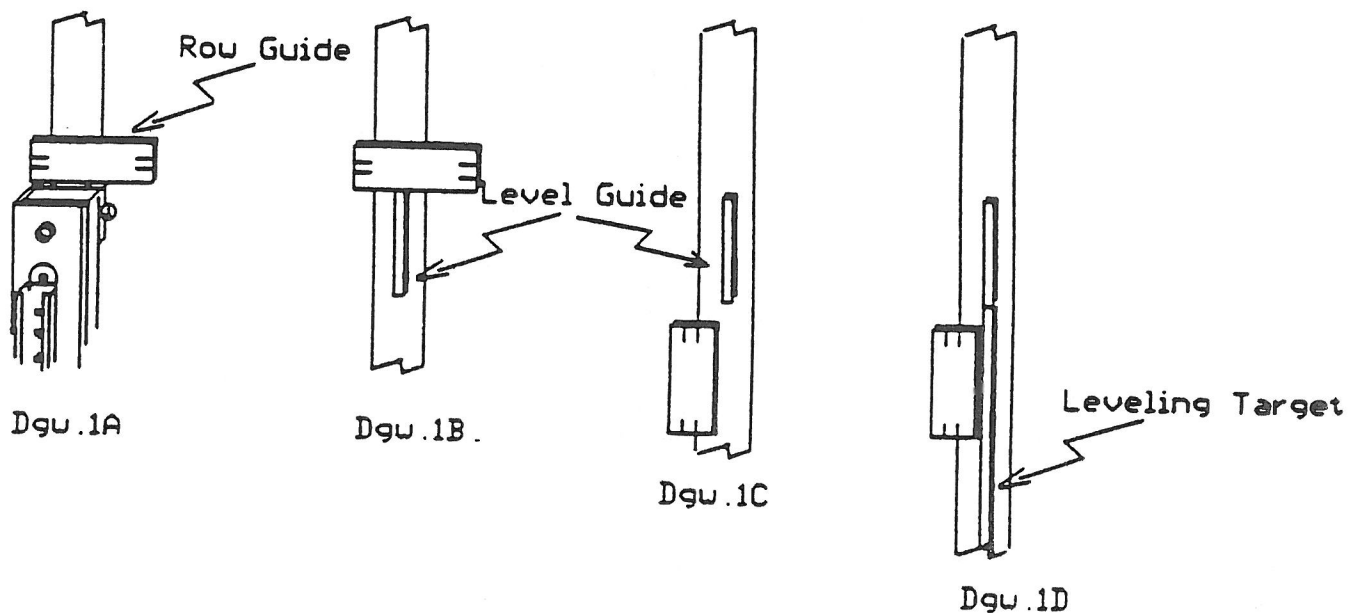
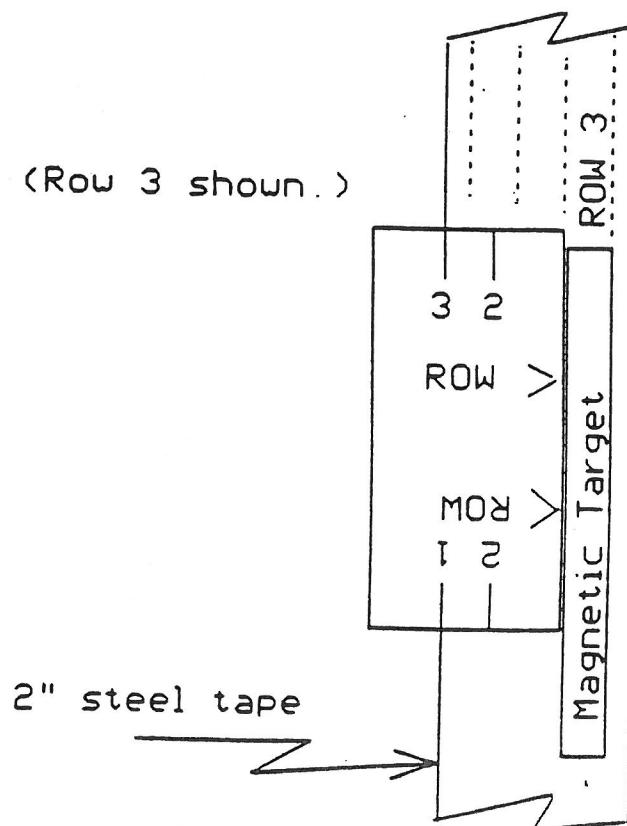

Figure 4. Leveling Target
Figure 5. Row Guide for 2" Tape
5. Set elevator level at the floor and install the Leveling Target. (Figures 4, 5 & 6, Guide To Leveling Target)
(Figure 5, Row Guide)
- 8.* Up Slowdown Target. In the up slowdown row, measure from the center of the Leveling Target, down to the slowdown distance required for your job. (Figure 5, Row Guide)
1. With elevator level at floor, place Row Guide across top of leveling unit as shown in figure 4, Dwg 1a.
2. Move the elevator down and place the Level Guide below the Row Guide, figure 4, Dwg 1b.
3. Use the Row Guide to locate the leveling row for your job. See figure 4, Dwg 1c and figure 5.
4. Peel the white backing from the leveling target. Position the adhesive side of this target to the steel tape, in the leveling row. Figure 4, Dwg 1d.
Align Row Guide on steel tape according to the row desired (see figure 5). Remove protective backing from target and place target adjacent to the Row Guide.